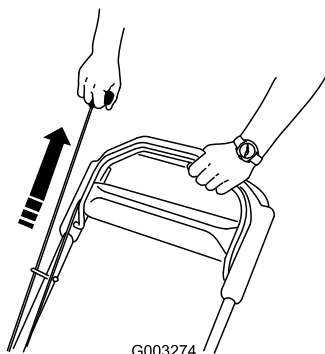

Figure 16
2. Pull the recoil-start handle (Figure 16).